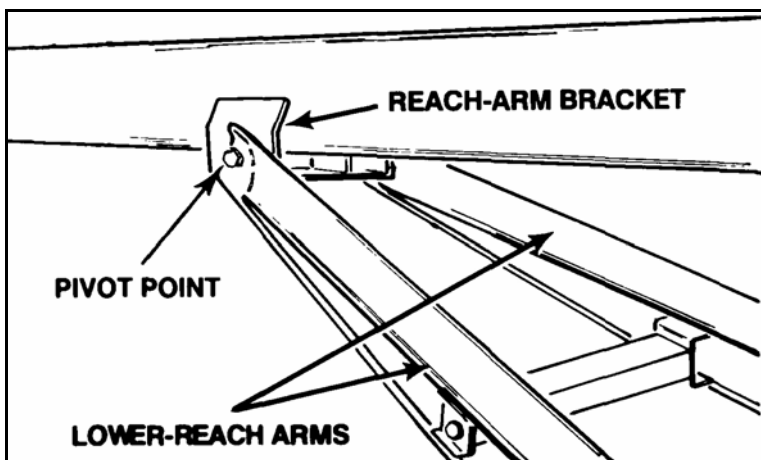

Figure 3.18
9. Position transport undercarriage beneath tube assembly and attach lower reach arms (Figure 3.18) or extension arms (Figure 3.17) to reach arm bracket on bottom tube with 5/8" x 1-1/2" bolts and locknuts. **Do not overtighten.** Tighten snug only; these bolts act as pivot points.